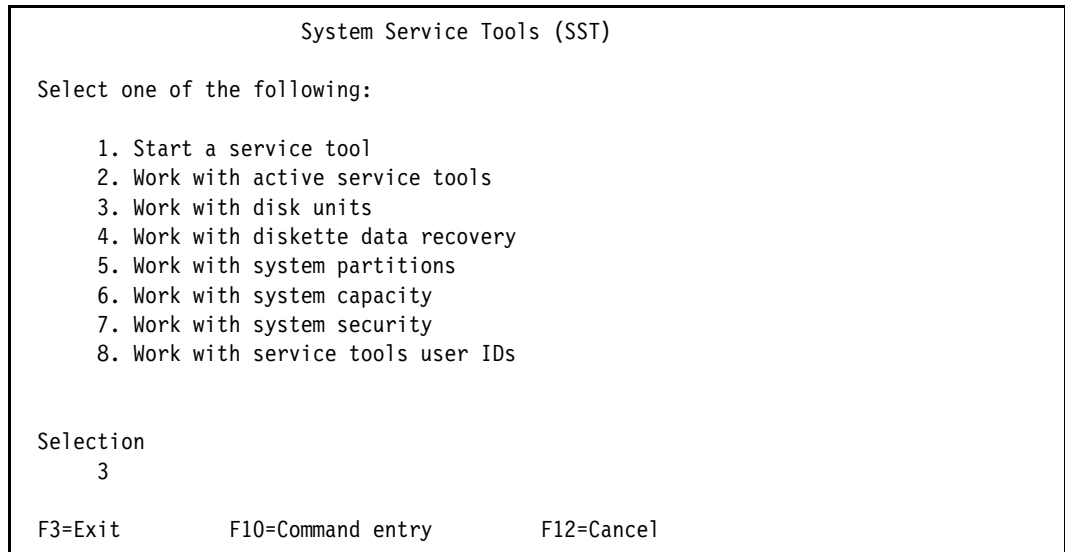

Figure 18-1 System Service Tools menu
2. Select Option **3**, Work with disk units as shown in Figure 18-1.